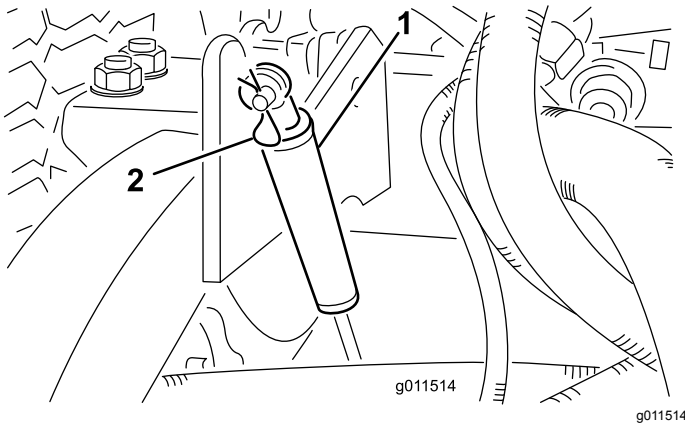

Figure 120
2. Remove the hairpin cotter securing the dampers to lift arms (Figure 120).